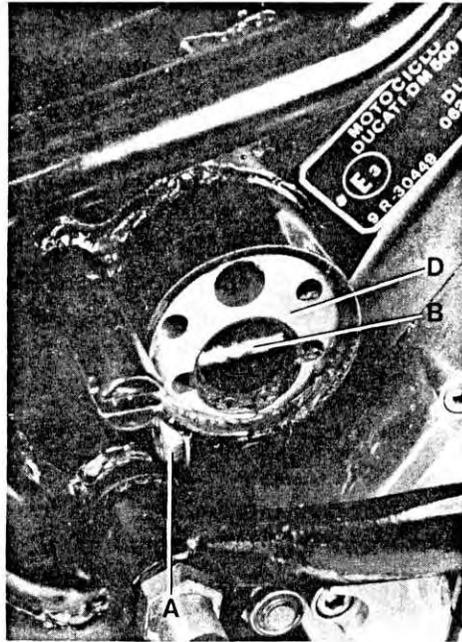

Fig. 16
(fig. 16 - 17); turn eccentric adjuster (D) so that  $15 \div 20$  mm of slack remain at the midpoint of the bottom run of the chain. Tighten the two bolts (A) and refit the two plastic caps.